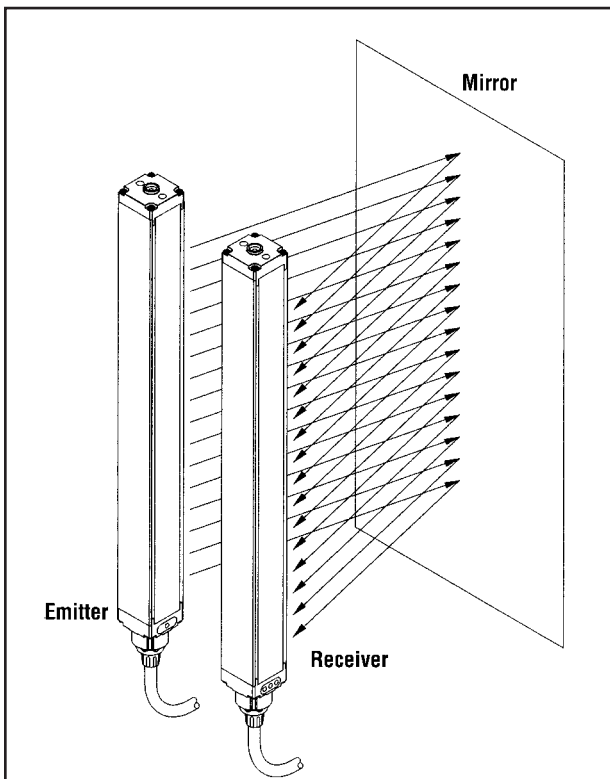

Figure 11. Never use MINI-SCREEN sensors in retroreflective mode.
**Never use MINI-SCREEN sensors in retroreflective mode, as illustrated in Figure 11.**